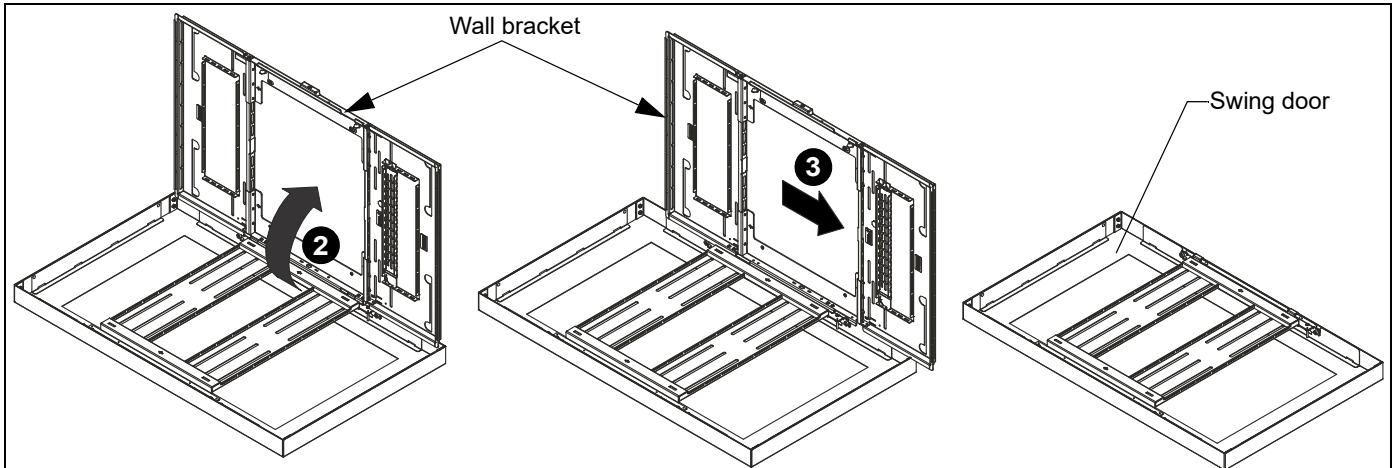

Figure 1
1. Place the kiosk (still in packaging) on a flat surface. (See Figure 1)
3. Keeping the wall bracket at 90°, slide the wall bracket about 1 inch towards bottom of kiosk until hinge pins clear the hinges, and move the wall bracket away from the swing door. (See Figure 1)